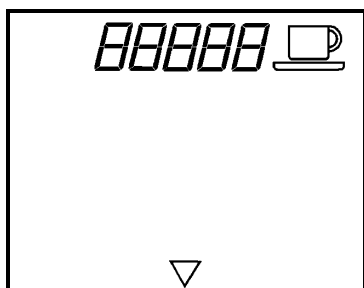
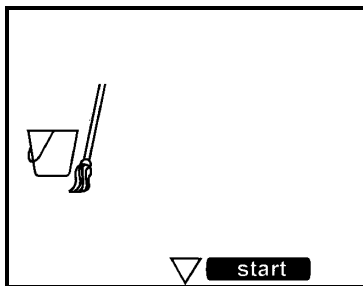

Fig. 4
Fig. 5
4. The number of brewed cups of beverage, see figure 4, appears in the display (11) on the outside of the door.
5. **Attention!** The program returns to normal mode after 10 seconds. Press again the programming button (3).
6. Press selection key (12). The cleaning program will appear in the display, see figure 5.
7. Press selection key (12) again to proceed to the next possible program/setting.
1. Select the rinsing program. Figure 5 now appears in the display.
2. Place a cup under the beverage outlet (14).